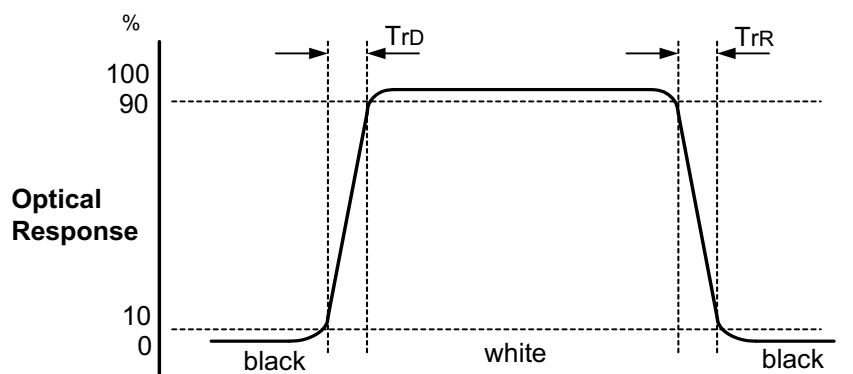

FIG. 3 Response Time
- Response time is the time required for the display to transition from white to black(Rise Time, Tr_R) and from black to white(Decay Time, Tr_D). For additional information see FIG 3.